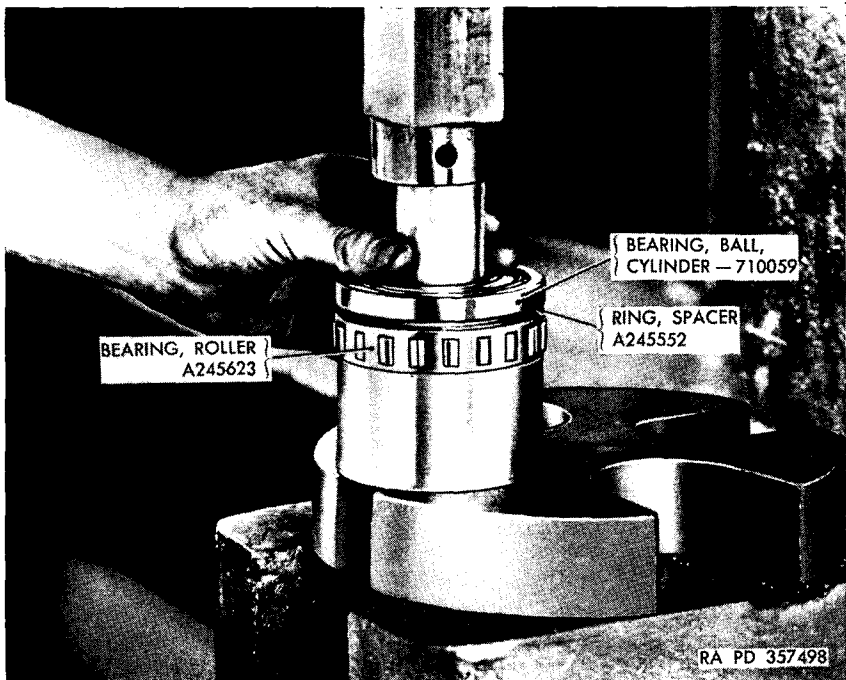

Figure 40. Pressing roller bearing, spacer ring, and ball bearing off pump shaft.
f. **DISASSEMBLE DRIVE SHAFT, CYLINDER, PISTONS, AND BEARING ASSEMBLY** (figs. 40 and 41). Place assembly in press with ported end of drive shaft up. Force spacer ring and roller bearing off cylinder. Lift rolling pistons out of cylinder. If a rolling piston sticks in a cylinder hole, insert a No. 8-32 screw in end of piston to pull it out.